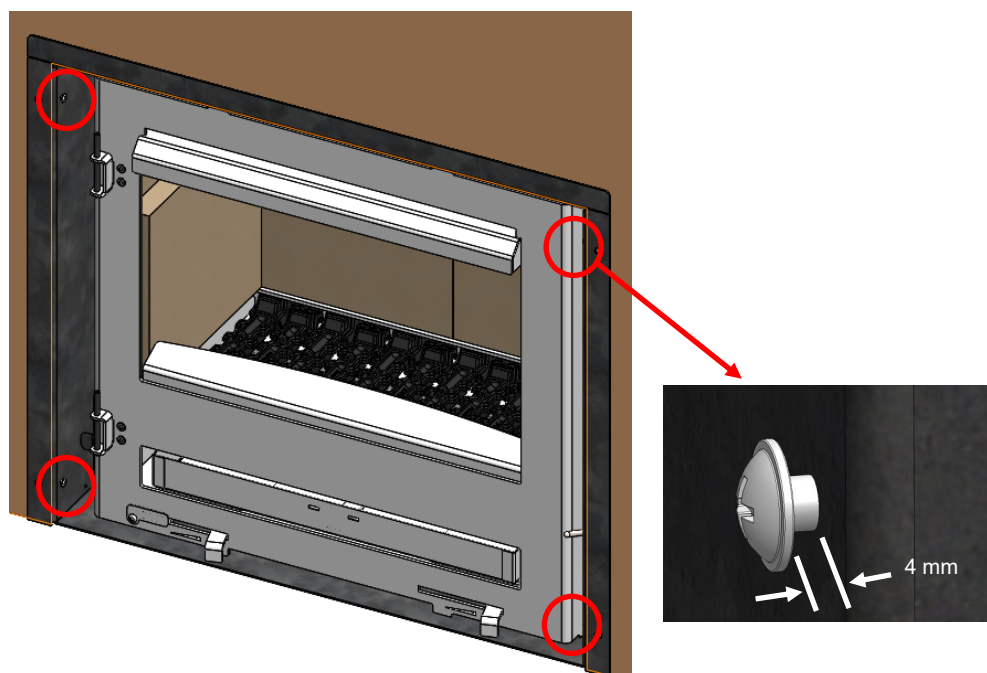

Fig. 14. Surround Trim Fixing Locations
- Take the 4x self tapping screws (supplied with trim) and fit to the 4x positions with in sides of the external casing, as shown in Fig. 14.